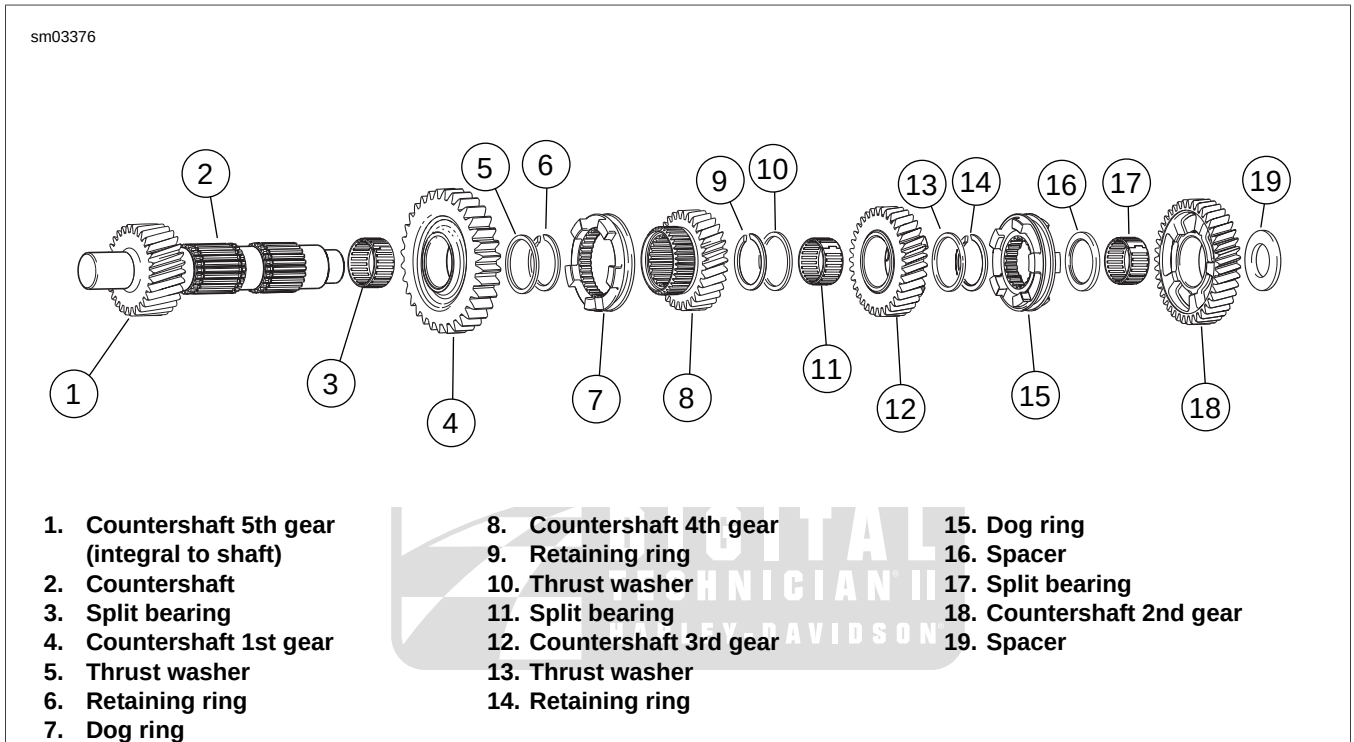

Figure 5-69. Transmission Countershaft Assembly Once Removed from Left Crankcase/Disassembly
1. See Figure 5-69. Install **new** split bearing (3) in 1st gear position on mainshaft.
2. Install 1st gear (4) and thrust washer (5).
3. Using RETAINING RING PLIERS (Part No. J-5586-A), expand and install **new** retaining ring (6).
4. Install dog ring (7) onto 4th gear (8). Now install dog ring and gear assembly onto countershaft.
5. Expand and install **new** retaining ring (9).
6. Install thrust washer (10).
7. Install **new** split bearing (11) in 3rd gear position on mainshaft.
8. Install 3rd gear (12) and thrust washer (13).
9. Expand and install **new** retaining ring (14).
10. Install dog ring (15). Make sure to install with dog ring facing same direction as when it was removed.
11. Install spacer (16).